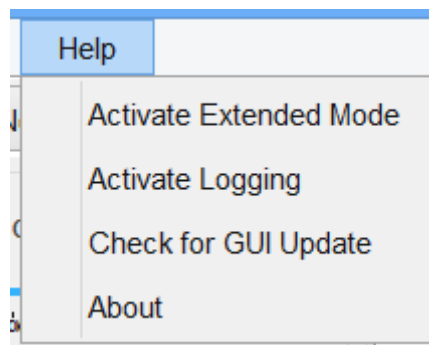

**Figure 5 Spec Line Dialog Window**
**Plot → Set Spec Line** opens a window dialog (see Figure 5). The dialog window allows defining and drawing a spec line into you measurement window. The data can be input manually in table format on the left or by clicking into the window on the right. Spec lines can be saved into and loaded from an external file.